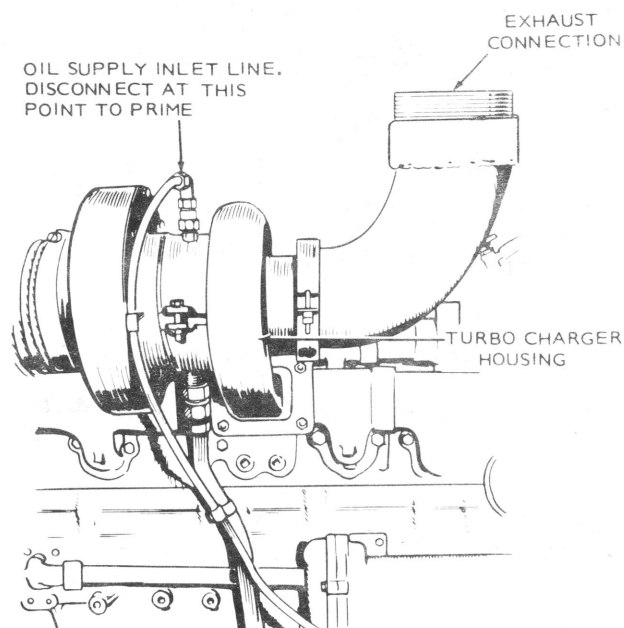

FIGURE 17. PRIMING TURBOCHARGER
1. Remove oil inlet line from turbo-charger housing (Figure 17), fill bearing housing with clean engine lubricating oil; replace line, secure.